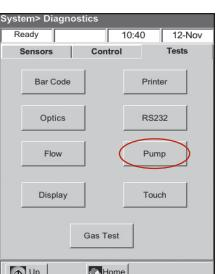

Figure 4: System > Diagnostics > Tests > Pump
- Tap **Pump** (Figure 4) to test the pump motor. The pump should run smoothly without excessive noise. This diagnostic test automatically steps through all the speeds used during normal operation (50–800 rpm) and then returns to the Diagnostics > Tests tab.